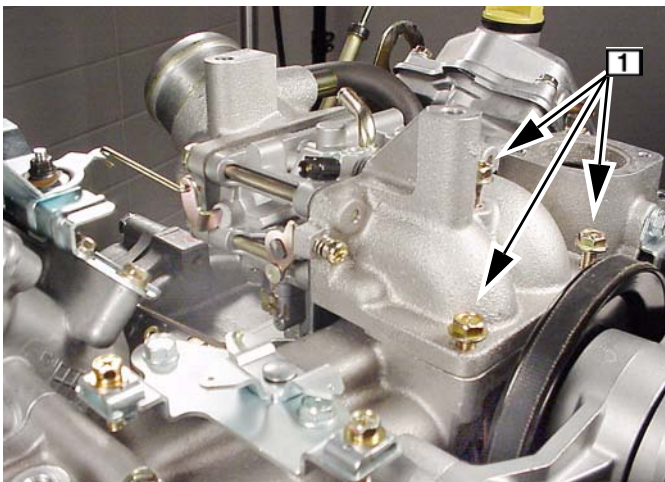

Fig. 165
2. Assemble choke link to choke lever and install carburetor and intake elbow assembly, Fig. 165. Torque screws **1** to 90 in. lbs. (10.0 Nm).